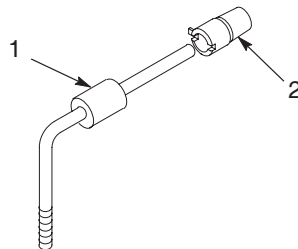

Figure 7-2 Fixed-depth sensor components
3. See Figure 7-2. By hand, turn the bayonet-style cap (2) that secures the sensor (1) one-quarter turn counterclockwise and then remove the sensor.